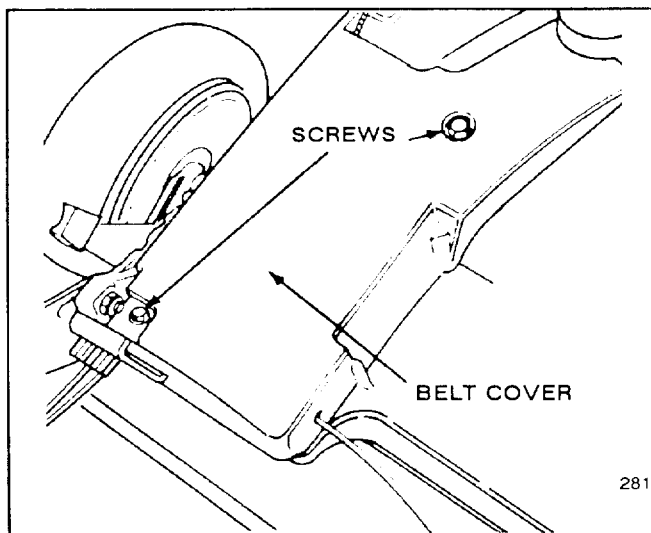

Figure 20
5. Remove (2) screws securing belt cover to deck (Fig. 20). Remove cover.